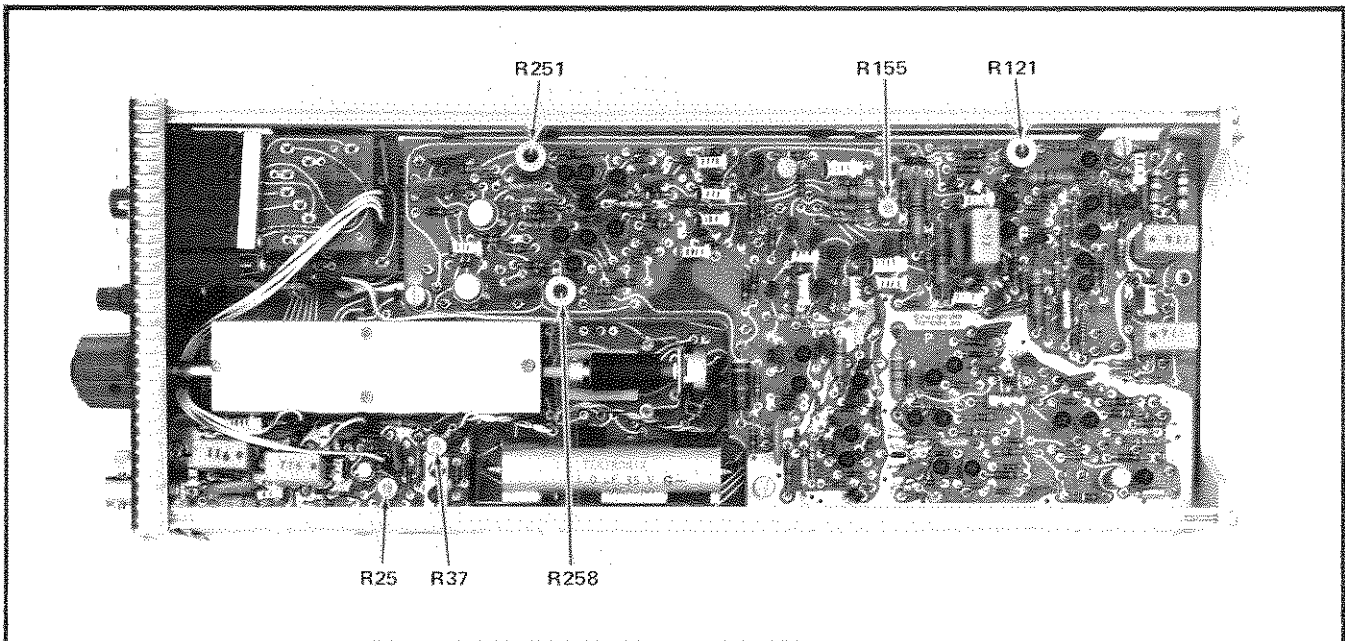

Fig. 5-2. Location of adjustments on Trigger Board.
c. ADJUST—R251 for a stable display. See Fig. 5-2 for location of adjustment.
**2. Adjust Lower Positive Slope P-P AUTO Level (R258)** ①
b. ADJUST—R258 for a stable display. Refer to Fig. 5-2 for location of adjustment.
**3. Adjust Negative Slope P-P AUTO Level (R155)** ①
b. ADJUST—R155 for a stable display. Refer to Fig. 5-2 for location of adjustment. Check for stable triggering over the full 360° range of the LEVEL/SLOPE control.
**6. Adjust DC Level Center (R121)** ①